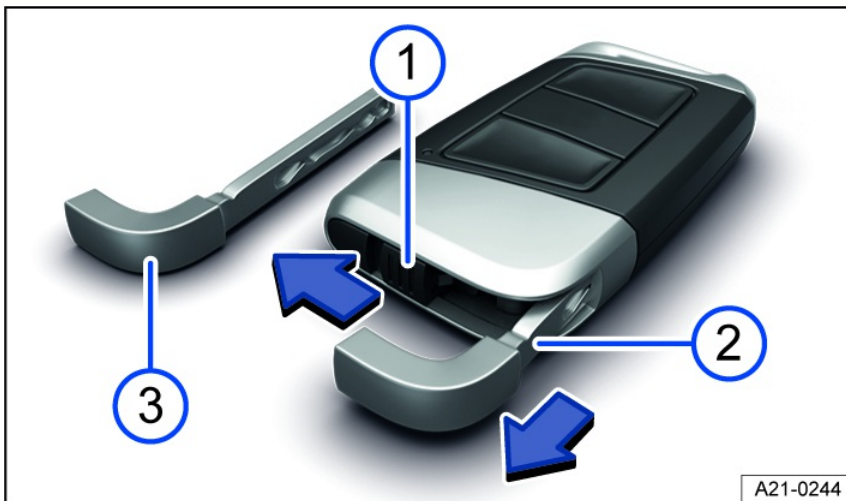

Fig. 48 Vehicle key: Unlocking the emergency key (general example).
There may be an emergency key *fig. 48* ③ located in the vehicle key that can be used to manually unlock and lock the vehicle.